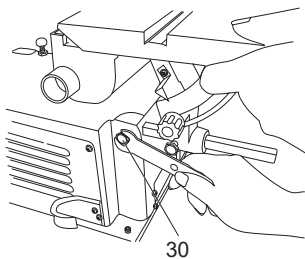

Fig. 20
- > Tighten the hex set screw (30) with the 13mm spanner. (Fig 20)